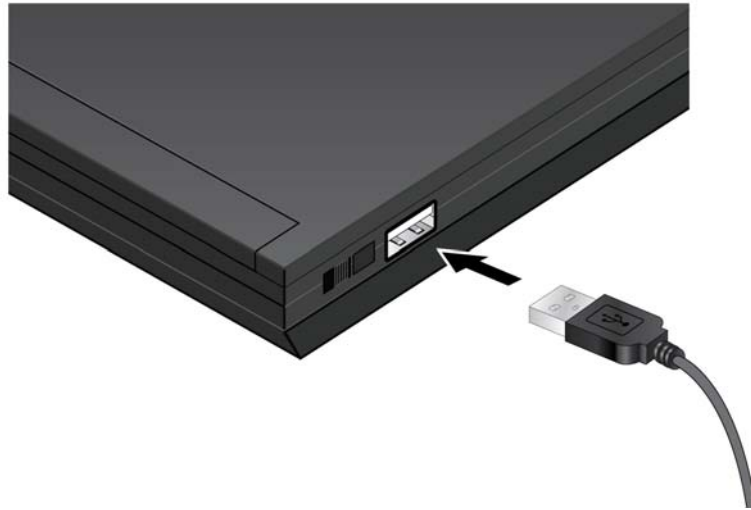

Figure 7. Connecting the USB Cable to Your Computer
2. Connect the USB Type A connector on the management cable to a USB port on your computer. Refer to Figure 7.